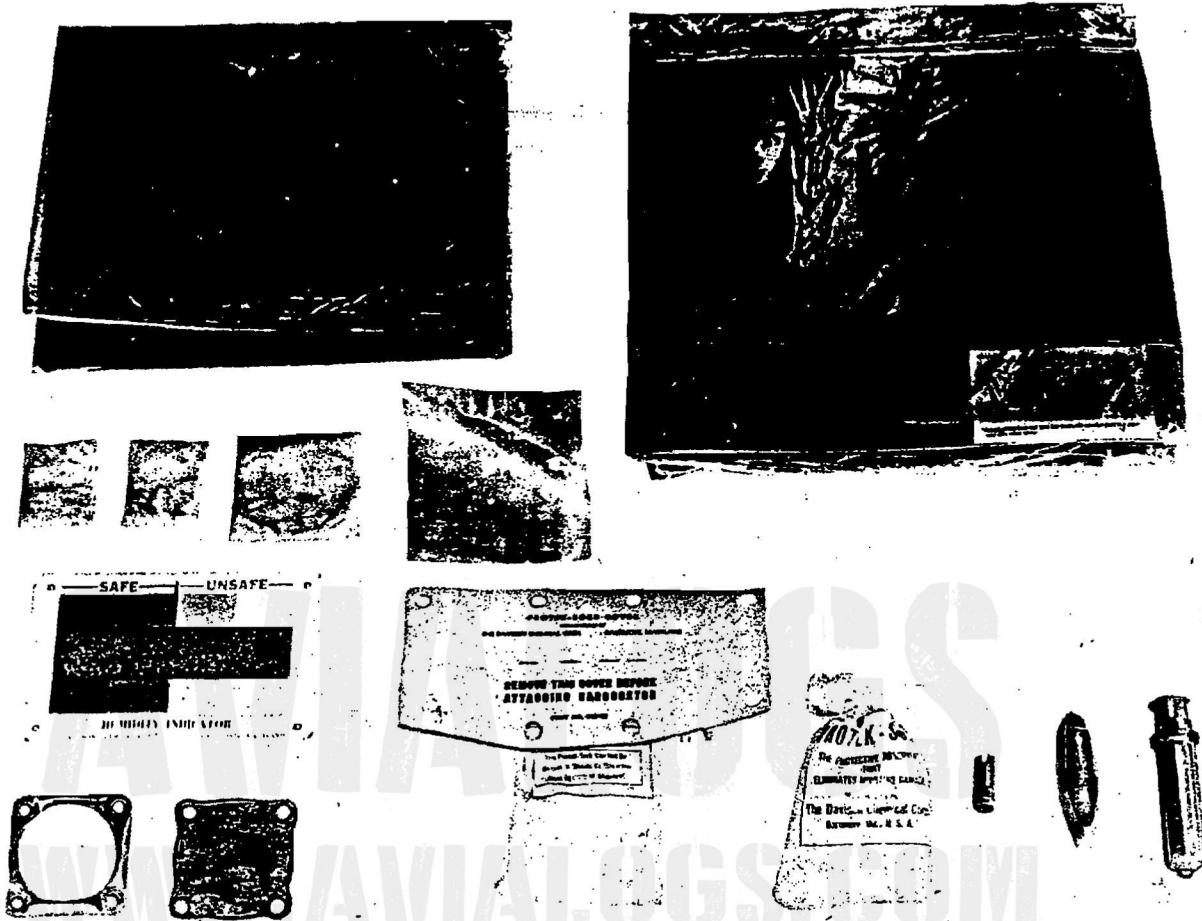

Figure 22—Engine Packing Equipment
p. Remove all the spark plugs and install the cylinder dehydrator plugs. Connect the ignition leads to the dehydrator plugs using spark plug terminal protectors and connections. See figure 22.